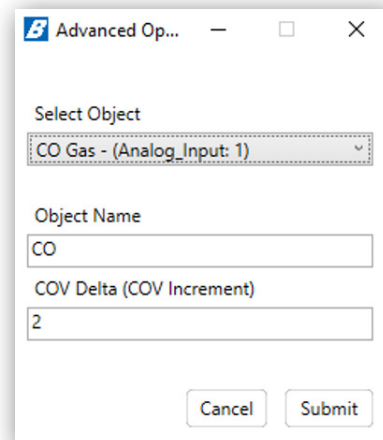

Fig. 3: Advanced Options Utility Window
9. Clicking Advanced Options opens the Advanced Options window (Fig 3). Click on the dropdown for Select Object to choose one of the available objects for that sensor. Edit the Object Name and COV Delta fields if desired.